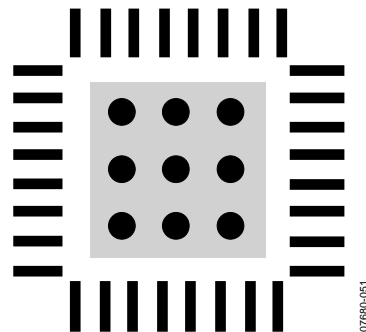

Figure 66. Exposed Pad Layout Example, Top View
- Vias should be placed to connect all layers of copper, allowing for efficient heat and energy conductivity. For an example, see Figure 66, which has nine vias arranged in a 3 inch  $\times$  3 inch grid in the pad area.